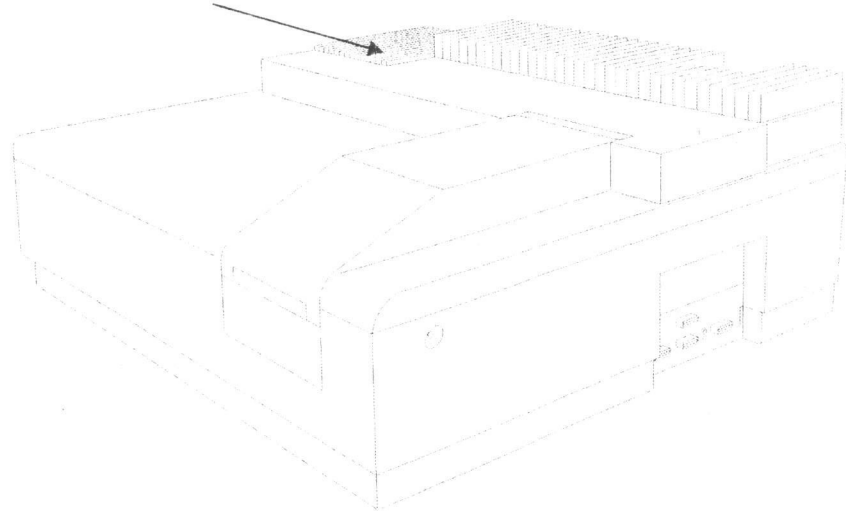

Figure 15 Lamp compartment
2. Remove the lamp compartment cover as shown in Figure 15 on page 86, by pressing down the catch and pushing the cover to the left.
1. Remove the lamp compartment cover as shown in Figure 15 on page 86, by pressing down the catch and pushing the cover to the left.